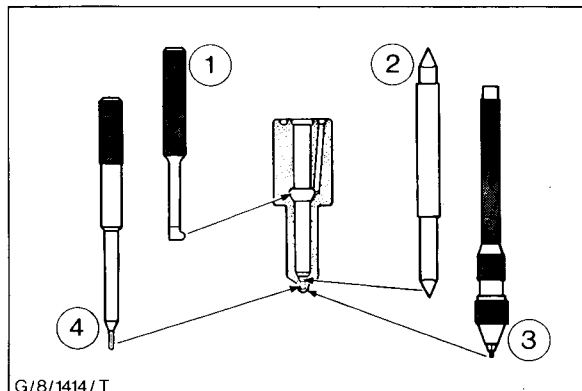

Fig. 88 - Injector Cleaning Tools
1. The cleaning of injectors is best achieved by the use of suitable tools, such as the injector cleaning kit (TOOL NO. FT 9101). All the injector components must have all the carbon completely removed; the four spray holes should be cleaned using the wire probes in the kit (Fig. 88).